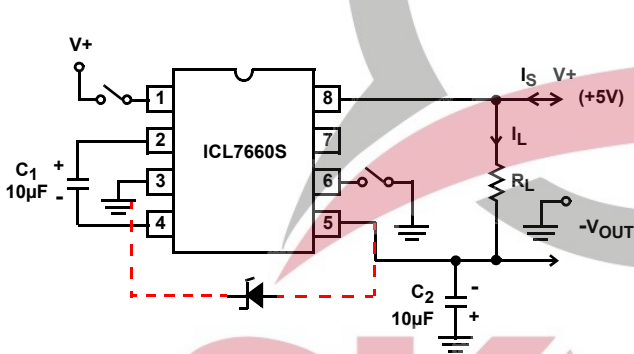
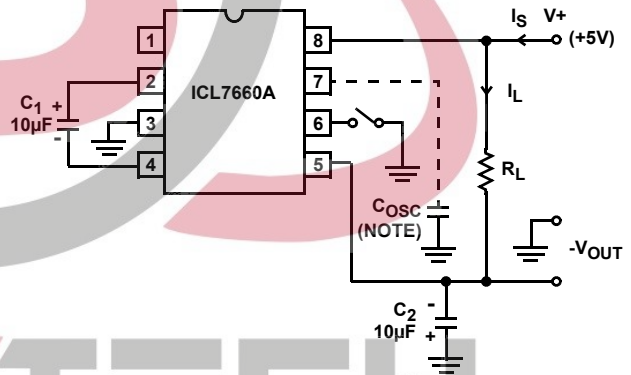

FIGURE 12. ICL7660S TEST CIRCUIT
FIGURE 13. ICL7660A TEST CIRCUIT
Electrical Specifications ICL7660S and ICL7660A, V+ = 5V, T_A = +25°C, OSC = Free running (see Figure 12 on page 7, "ICL7660S Test Circuit" and Figure 13 on page 7 "ICL7660A Test Circuit"), unless otherwise specified.
Electrical Specifications ICL7660S and ICL7660A, $V_+ = 5V$, $T_A = +25^\circ\text{C}$, OSC = Free running (see Figure 12 on page 7, "ICL7660S Test Circuit" and Figure 13 on page 7 "ICL7660A Test Circuit"), unless otherwise specified. (Continued)
ICL7660A, $V_+ = 3V$, $T_A = 25^\circ\text{C}$, OSC = Free running, Test Circuit Figure 13, unless otherwise specified
See Figure 12 on page 7, "ICL7660S Test Circuit" and Figure 13 on page 7, "ICL7660A Test Circuit"
See Figure 12 on page 7, "ICL7660S Test Circuit" and Figure 13 on page 7 "ICL7660A Test Circuit" (Continued)
- These curves include, in the supply current, that current fed directly into the load R_L from the $V+$ (see Figure 12). Thus, approximately half the supply current goes directly to the positive side of the load, and the other half, through the ICL7660S and ICL7660A, goes to the negative side of the load. Ideally, $V_{OUT} \approx 2V_{IN}$, $I_S \approx 2I_L$, so $V_{IN} \times I_S \approx V_{OUT} \times I_L$.